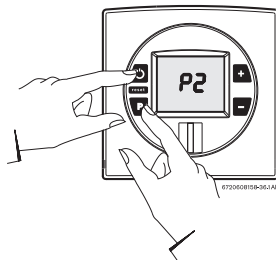

Fig. 69
- ▶ While holding the Program (P) button, press the ON/OFF button to turn ON the heater (see Fig. 69). When '188' flashes on the display, release the Program button. The display should now read P2. Press **-** button until "P1" appears on display.